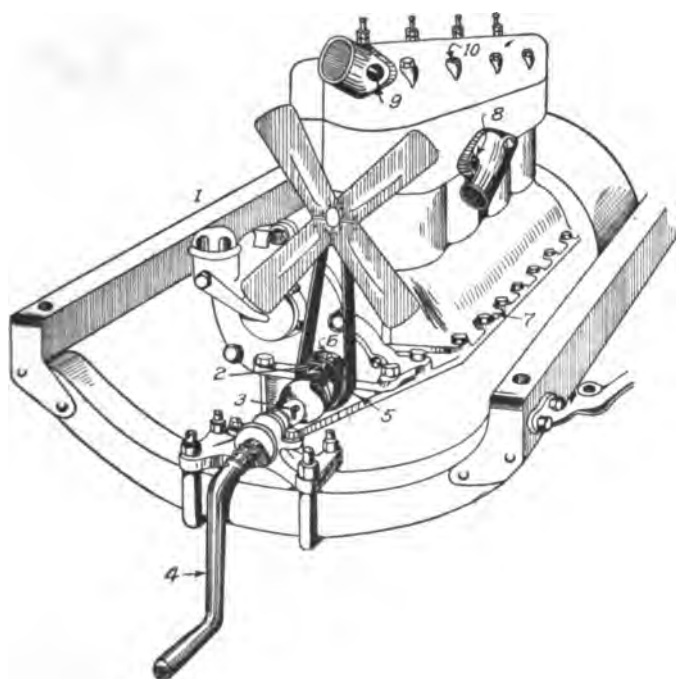

Fig. 383. Preparing Engine for Mounting Starting Unit
**Installation. Preparing Engine.** Remove the radiator, disconnecting the ground wire from it; disconnect the wires from the head lamps and remove the head lamps and supports. Take off the bracket and fan, Fig. 383, and turn the engine by hand until the pin 2 in the fan pulley is straight up and down; remove the pin from the jaw clutch and remove the starting-crank 4, belt 5, and the cotter pin, 3; take the pin from the fan pulley and remove the pulley 6. Remove